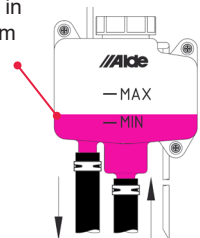

Fig. 2, Expansion vessel
- Check that the glycol mixture is at the correct level in the heating system expansion vessel, see Fig. 2. The level should be about one centimetre above the MIN mark in cold systems. Ensure that the system is properly ventilated before putting it into use.
Start the system by pressing the On/Off button on the control panel (Fig. 8, image 1). The start image is displayed (Fig. 8, figure 2) and the system starts with the last selected settings. When the heating system and control panel are on, a green diode lights up on the On/Off button.